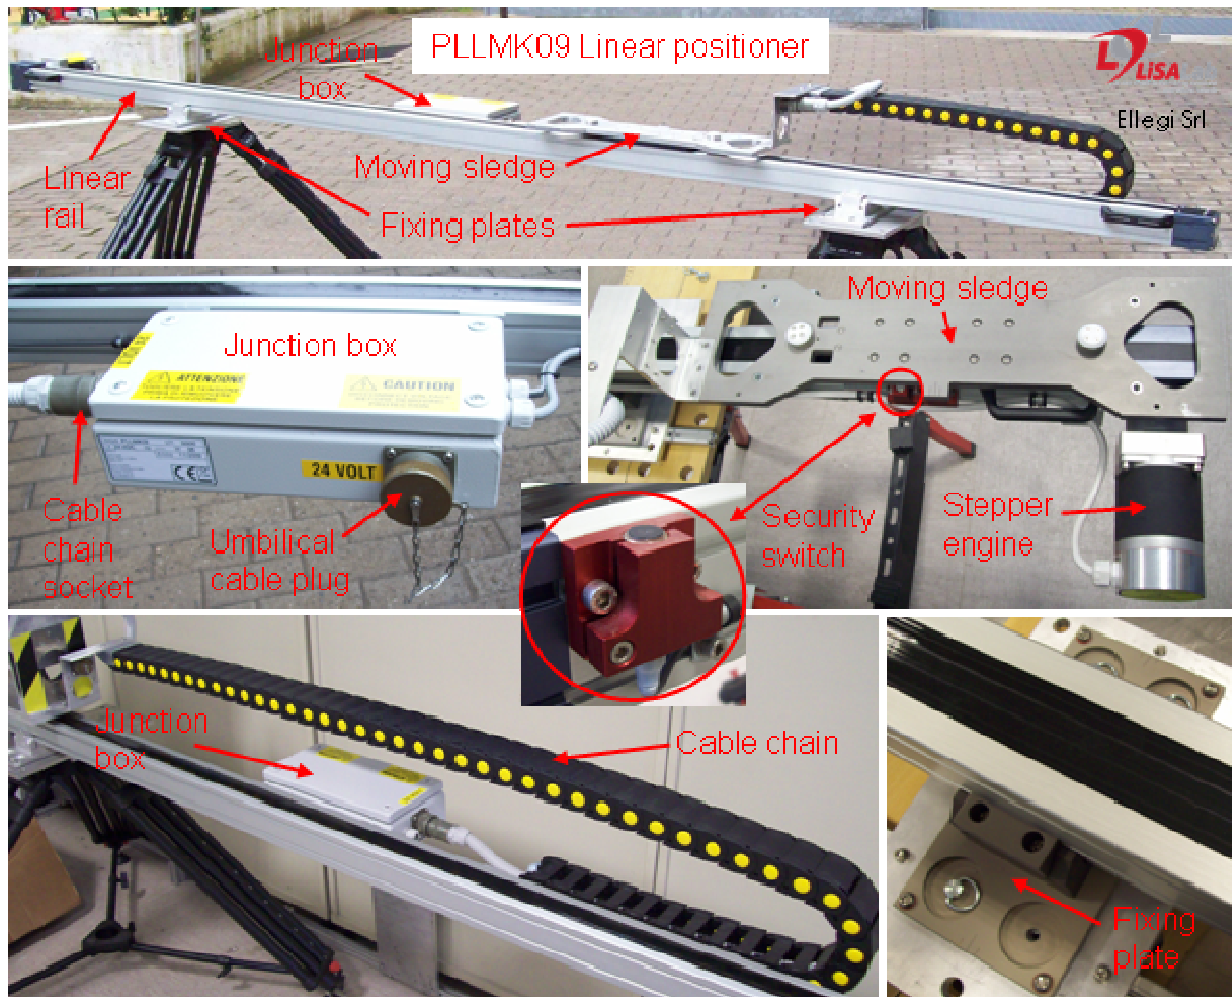

Figure 6: LISAMOBILE PLLM linear positioner main features.
5. Linear positioner PLLM: it is the component of the LISAMOBILE system that ensures the measuring head displacement. It is composed of an aluminium linear rail with a moving sledge that can be moved forwards and back along the rail, a high performance stepper motor, three security switches, a junction box, a cable chain and two fixing plates (Figure 6).